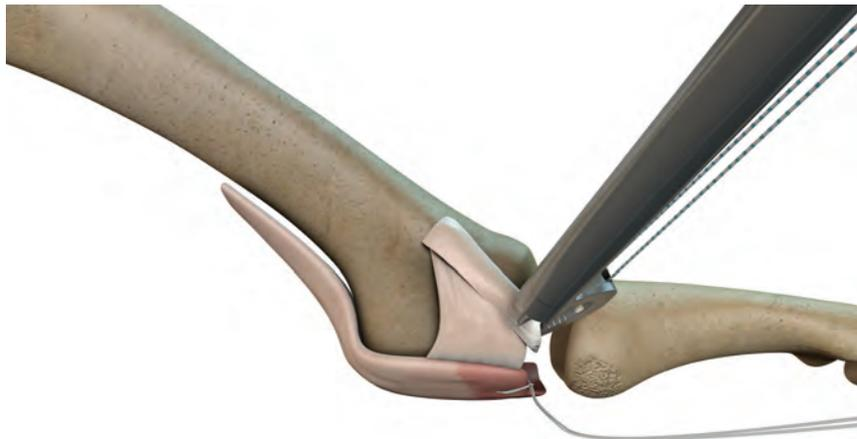

Figure 12: Place the suture in the collateral ligament
12. Repeat steps 2–10 with the second ULTRABRAID[®] 2-0 Suture (different color) on the collateral ligament (Figure 12).